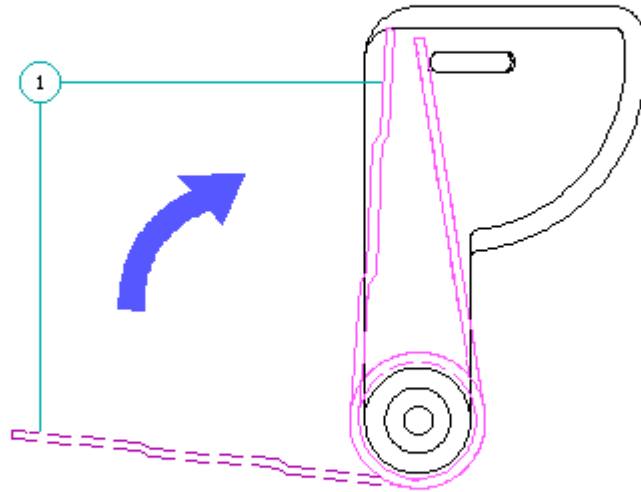

Figure 9-56. Compressing the Spring on the Guide (Eject Switch Side)
3. Compress the spring by holding the horizontal guide and rotating the bent leg of the spring [1] toward the guide (Figure 9-56).